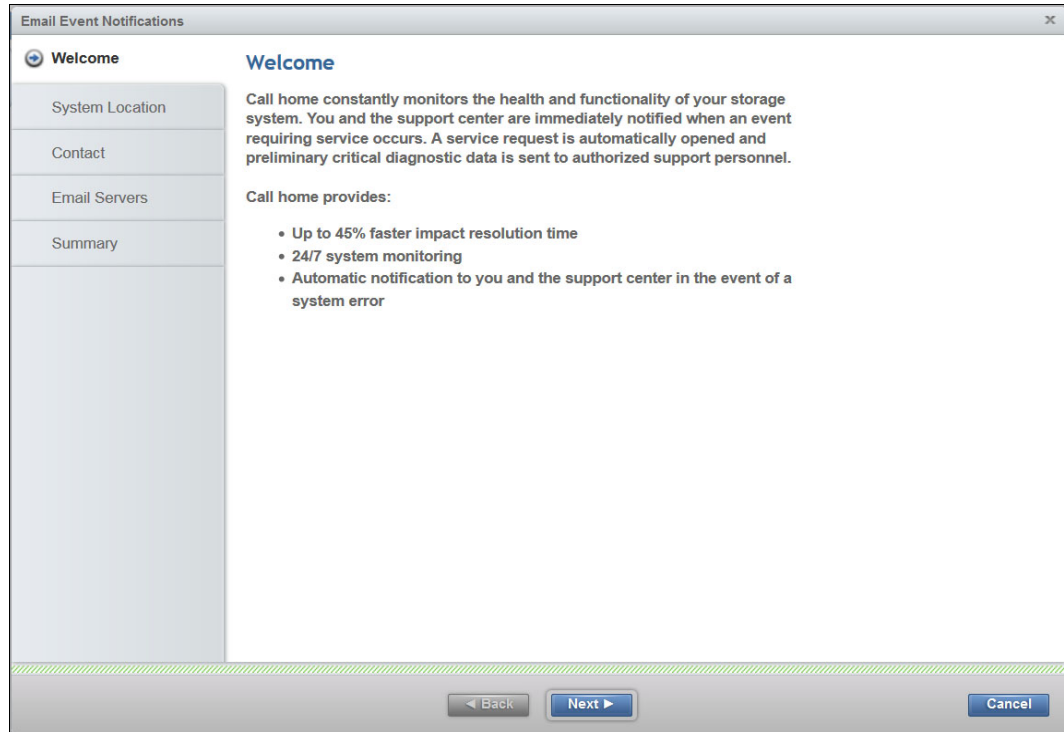

Figure 9-4 Configuring Call home enables IBM to provide excellent service
- The Email Event Notifications wizard starts (Figure 9-4). It briefly describes the benefits of call home. Read through it and then click **Next**.